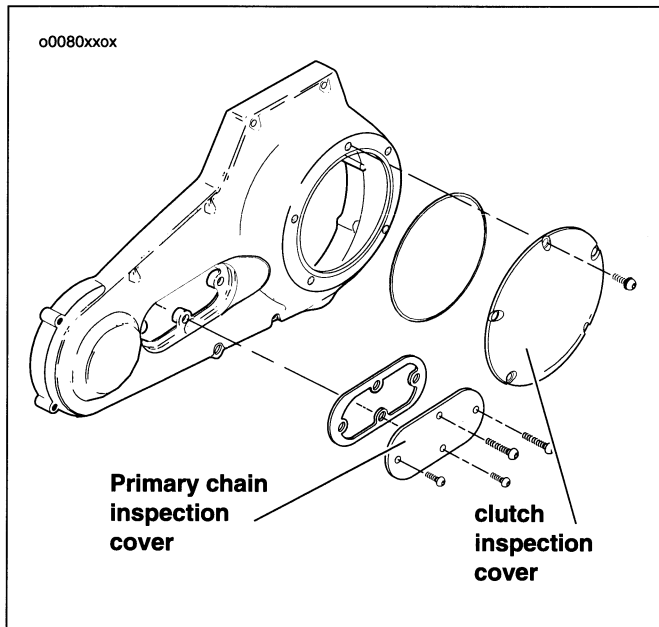

Figure 39. 1450cc Primary Chaincase
2. See Figure 39. Remove screws and washers that secure clutch inspection cover.